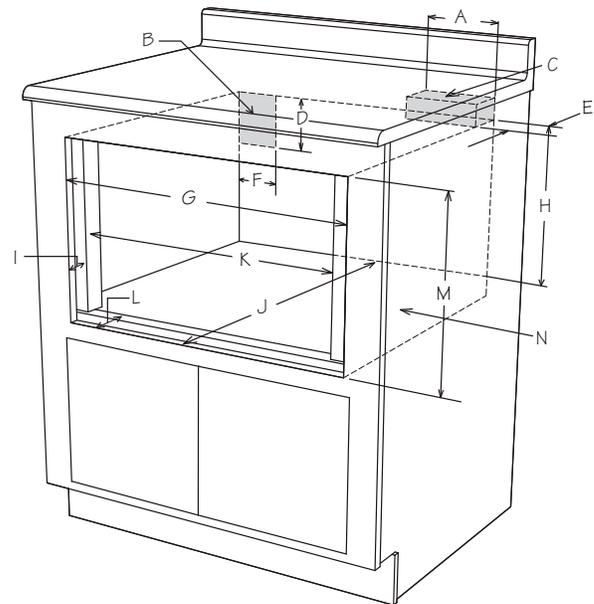

Figure 5
Prepare cabinet opening as shown in Figures 5, 6, 7.
1. Prepare cabinet opening as shown in Figures 5, 6, 7.